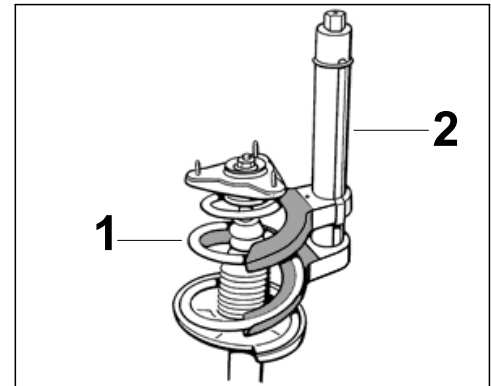

Figure 3
2.1.3 Pre-tension new coil spring using spring tensioner (\Rightarrow Figure 3).
2.1.4 Position new coil spring on the shock absorber as shown in Figure 3 (\Rightarrow Figure 3). The end of the coil spring is touching the stop on the concave washer.